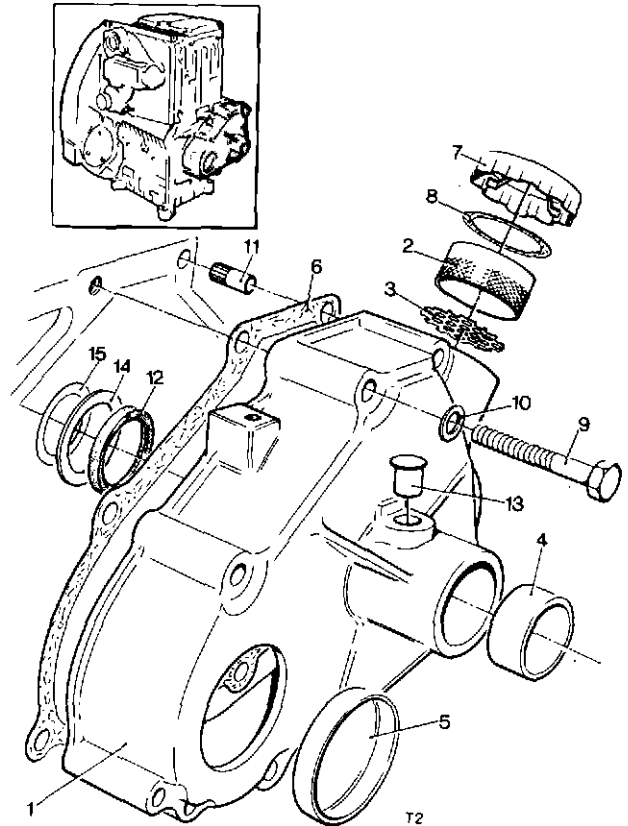

**Fig. 75 Decompressor Adjustment**
**Adjusting the Decompressor (Fig. 75)**